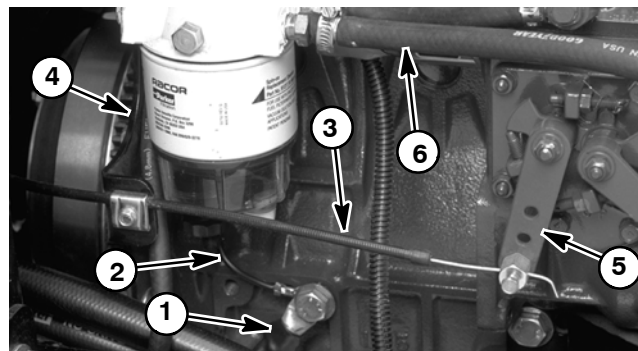

Figure 21
- A. Battery and wire harness grounds (Fig. 21).
9. Disconnect throttle cable from the support and swivel on the speed control lever (Fig. 21).
10. Disconnect fuel hose from the fuel/water separator (Fig. 21) and front injector nozzle.
8. Connect fuel hose to the fuel/water separator (Fig. 21) and front injector nozzle.
- A. Engine grounds to the battery and wire harness (Fig. 21).
14. Connect throttle cable to the support and swivel on the speed control lever (Fig. 21).